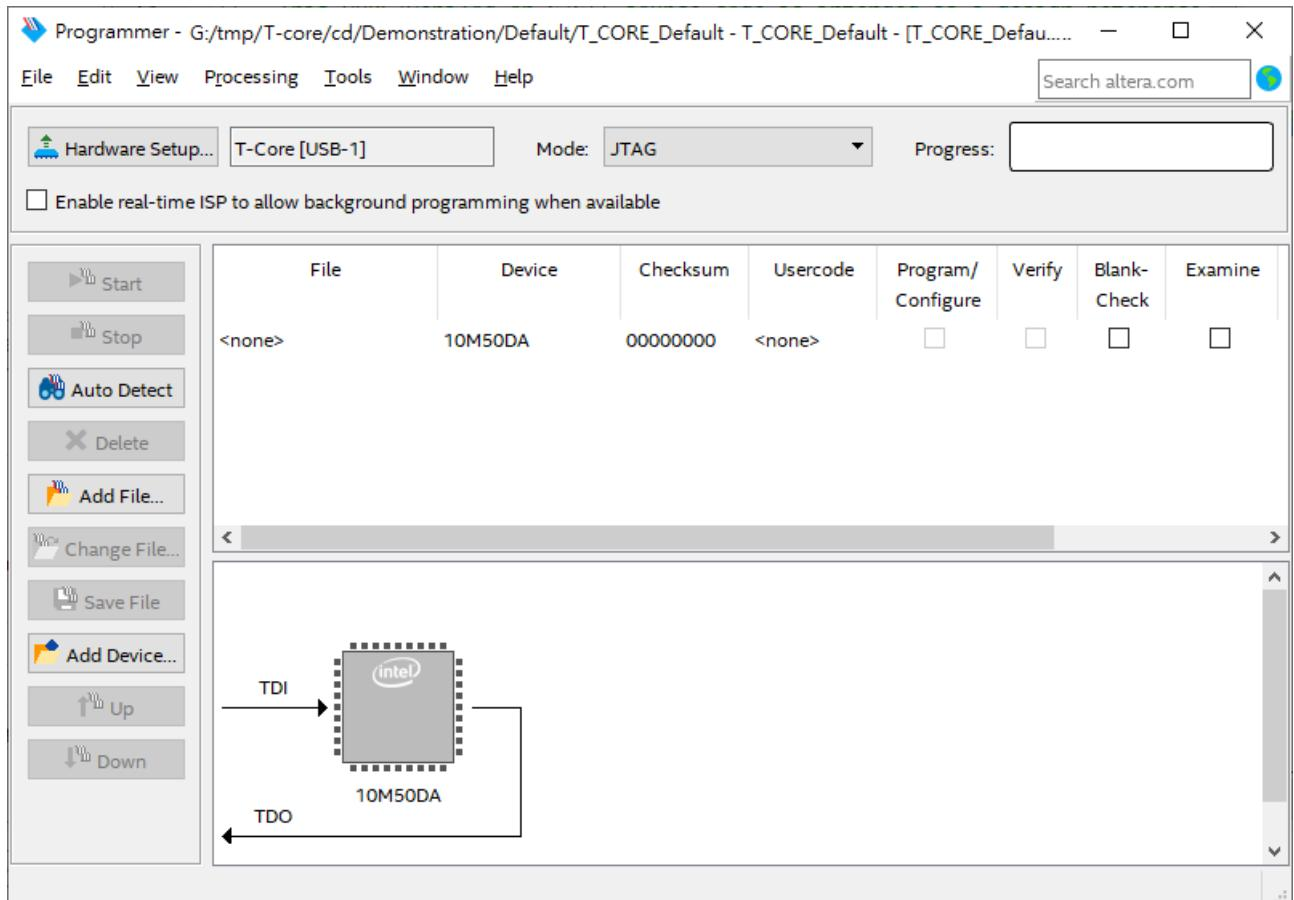

Figure 2-7 FPGA detected in Quartus Prime programmer
6. FPGA is detected, as shown in **Figure 2-7**.